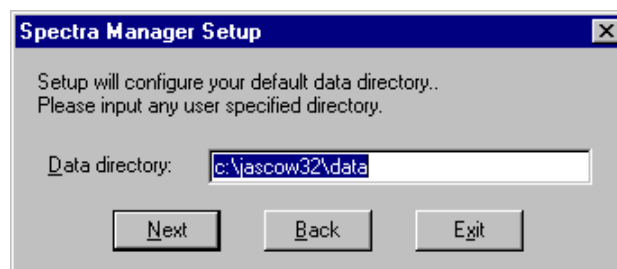

Figure 10.9 Data Directory input screen
- (2) Click the <Next> button. The screen shown in Fig. 10.9 appears.